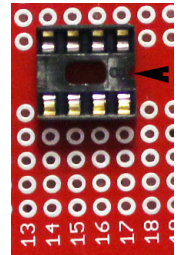

Figure 1:
1. Insert 8 pin IC chip socket in rows 14 through 17 of solder-able breadboard as seen in Figure 1. The notch in socket should be on right side (arrow in Figure 1). Solder 8 pins on bottom side of board.